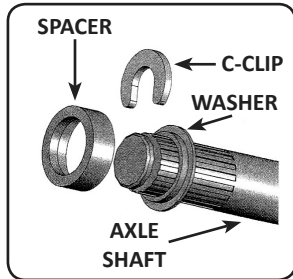

fig. 2
- 7:** Seat the washer onto the face of the coupler, line up the C-clip groove on the axle shaft with the slot on the driver and insert the C-clip between the washer and spacer (fig. 2) onto the axle shaft.